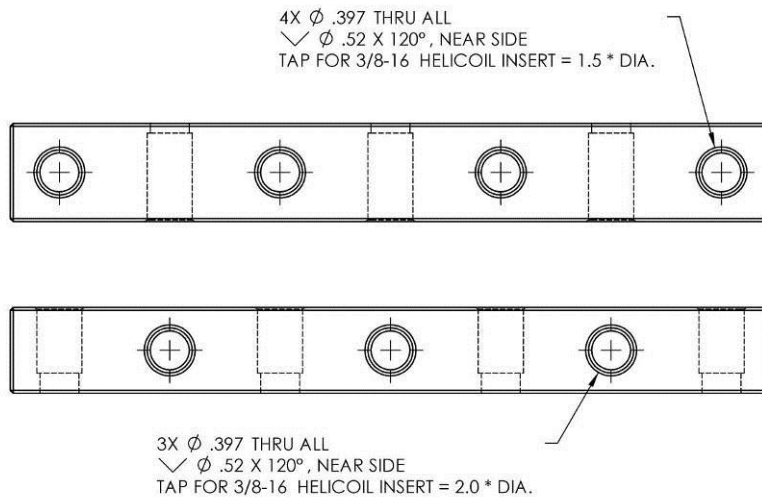

Figure 69: Prep Work for D0901537 Bracket, Lower Outer Wall, Side
(3) 3/8-16 x 2 DIA Helicoils
- Install Nitronic 60 Helicoil threaded inserts into D09015357. See Figure 69.